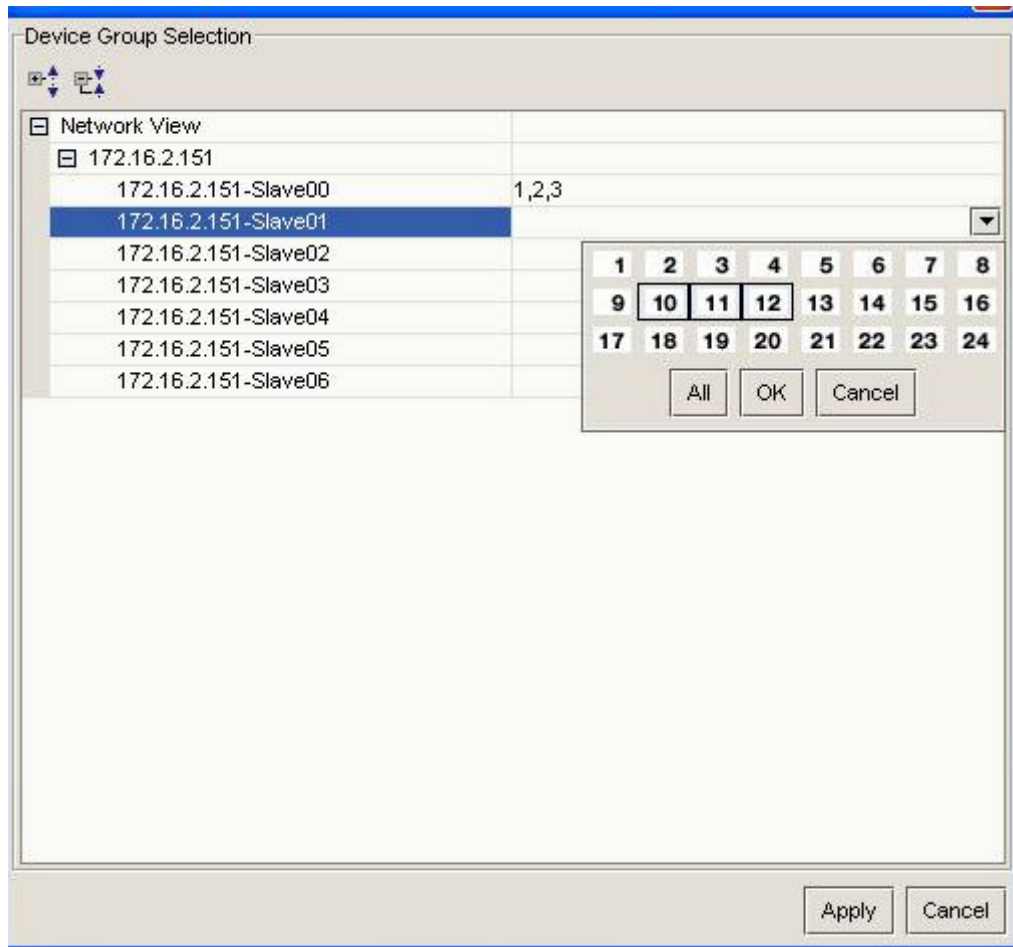

Figure 9-2. Device group selection dialog
Step1: After pushing the Select button, the system will display a dialog to choose devices and port as below Figure 9-2: